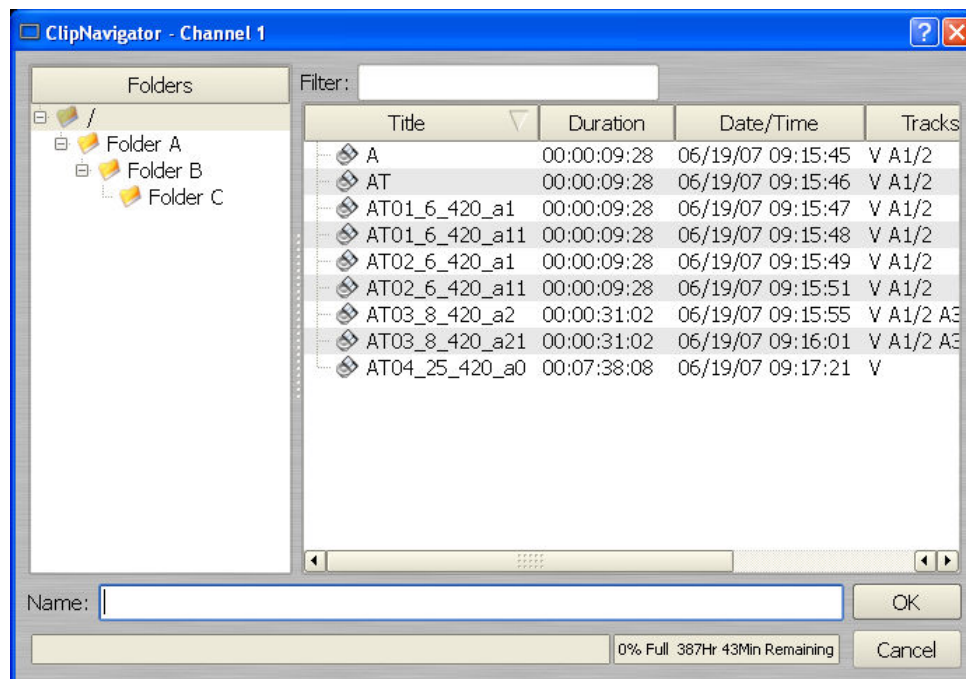

Figure 9 - Channel 1 Clip Navigator "New" mode
- A. From the Channel 1 Transport Window, Select **FILE->NEW**. The dialog of Figure 9 appears.